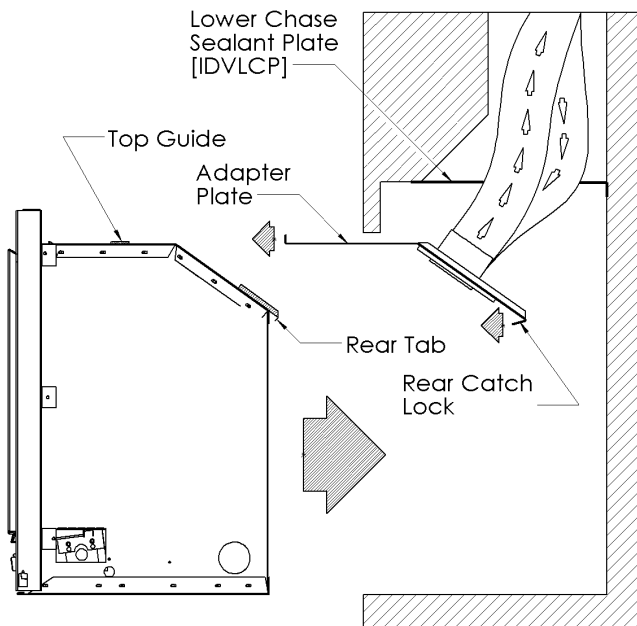

Fig. 2 - Base unit chimney venting install.
3. Slide the unit into place carefully. Ensure that the adapter slides along the top of the unit, in between the guides, and check that it remains flat. (Fig. 2)
4. Once the unit is slid back into position use the two screws previously removed to secure the adapter plate. When tightening the adapter plate check to make sure the plate is flat to the unit and the rear catch lock is engaged over the rear tab of unit. (Fig. 2 & 3)